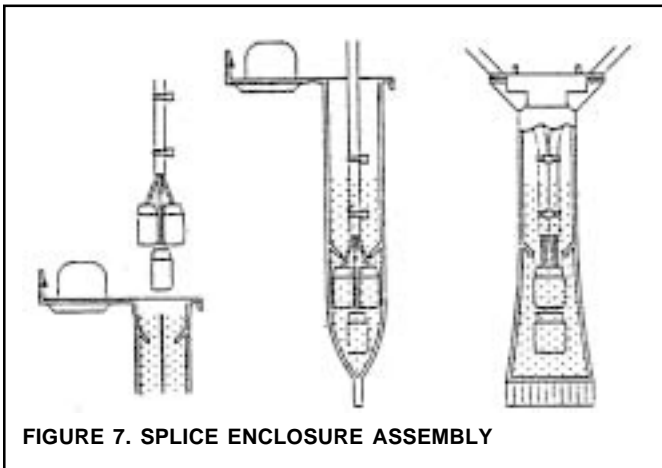

FIGURE 7. SPLICE ENCLOSURE ASSEMBLY
7. Insert the entire splice assembly into the silicone filled splice enclosure P/N 62085-001 as indicated in Figure 7.